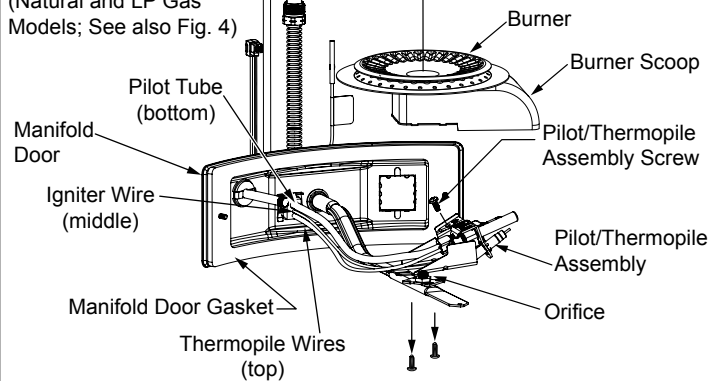

Figure 2
3. Lift the retainer clip straight up from the back of the manifold component block (using a flat-blade screwdriver), then remove the manifold component block from the manifold door (Figure 2). Note the placement/order of the wires in the manifold component block.
3. Reinstall the manifold component block in the manifold door. Ensure that you route the pilot tube, the igniter wire, and the thermopile wires through the correct openings in the manifold component block. See Figure 2.